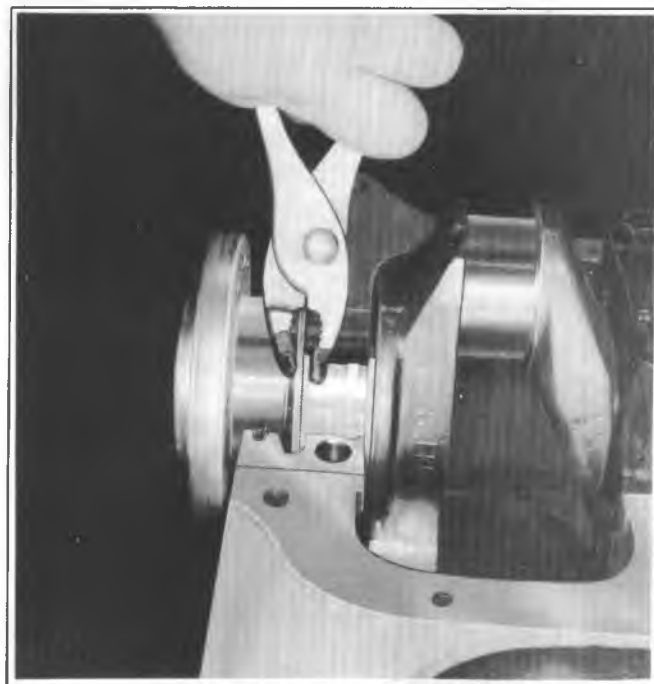

Fig. 6A1-33--Replacing Upper Main Bearing
- b. Use a pair of pliers (with taped jaws) to hold the bearing thrust surface to the oil slinger and rotate the crankshaft to remove bearing (fig. 6A1-33).